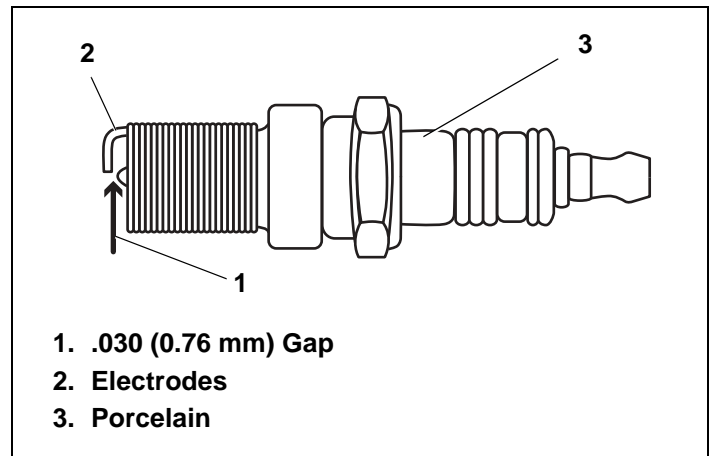

Figure 32. Resistor Spark Plug
4. Check electrode gap with wire feeler gauge and set gap to—.030 in. (0.76 mm) if necessary. See Figure 32.